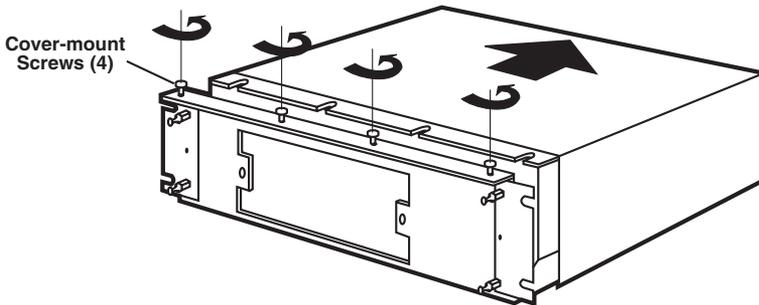

Figure 4-3. Removing the Cover.
2. Remove the front bezel from the RISC Router Expandable. See Figure 4-3.